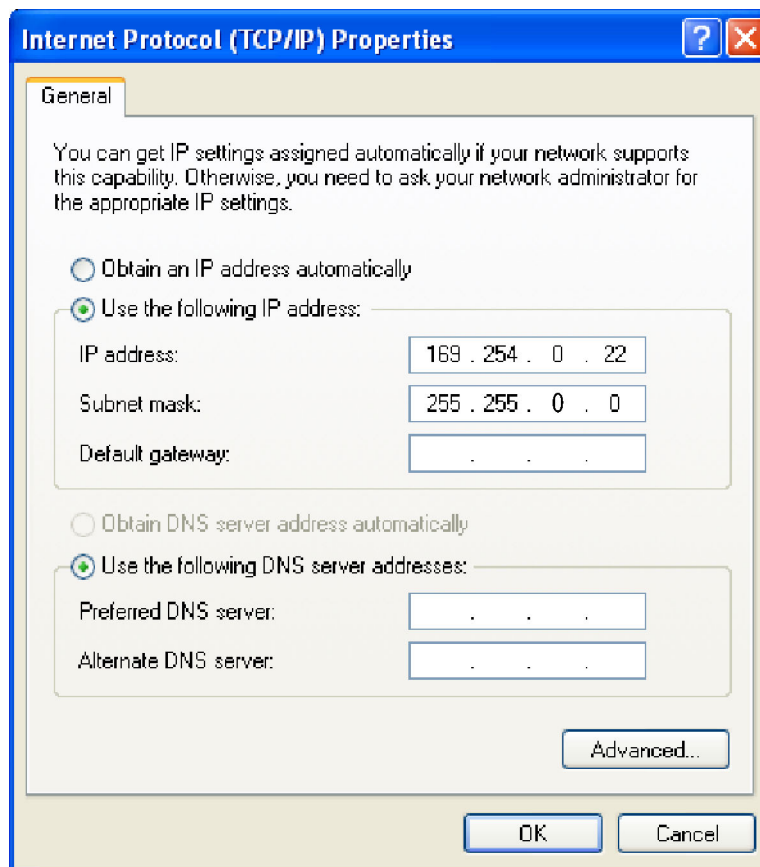

Figure 7: IP Properties dialog box
3. Scroll down the list and select **Internet Protocol (TCP/IP)**; and then click **Properties**. The Internet Protocol (TCP/IP) Properties dialog appears. (See Figure 7.)